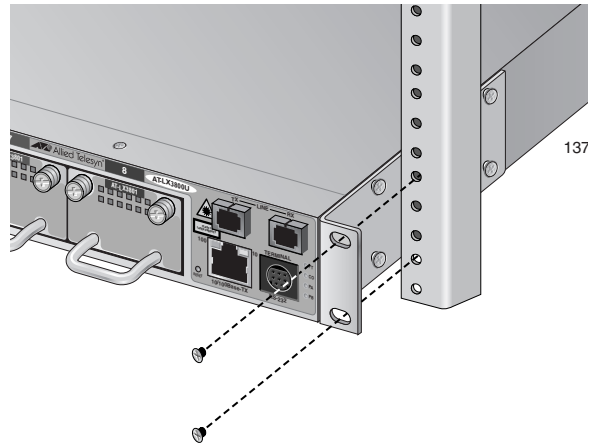

Figure 21. Mounting the AT-LX3800U Chassis in a 19-inch Rack
6. Mount the chassis in a 19-inch rack using appropriate screws (not supplied), as shown in Figure 21.